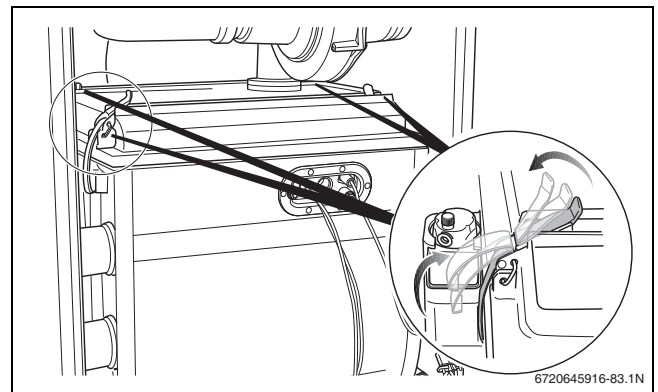

Fig. 85 Opening the retaining clips
- ▶ Carefully open the 4 snap retaining clips on the burner cover (→ fig. 85). The retaining clips may be under tension.